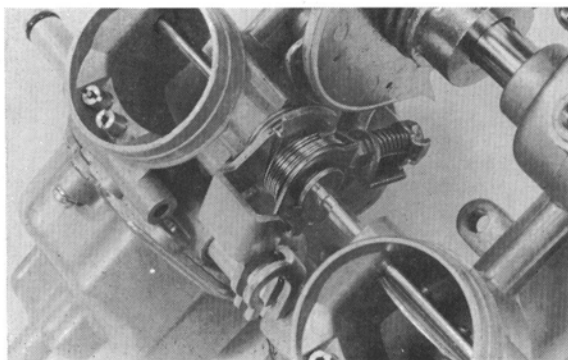

Fig. K3-11
② Choke valve
③ Lock washer
④ Hex head screw
3. Install the choke shaft levers and springs as shown in Fig. K3-11.